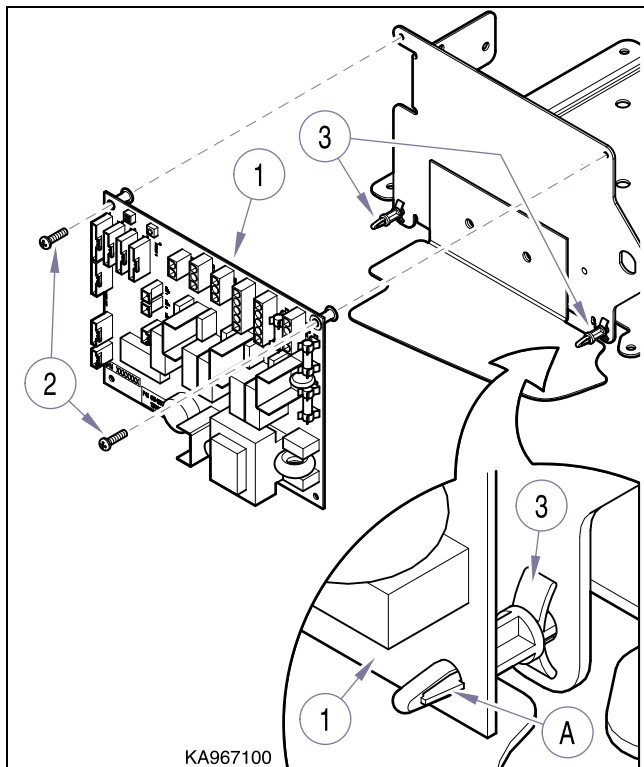

Figure 4-17. Printed Circuit Board.
- (4) Tag then disconnect plug connectors from P.C. Board (1, Fig. 4-17).
- (1) Install p.c. board (1, Fig. 4-17) on lower mounts (3), pushing inward until it snaps in place.
- (2) Install top mounting screws (3).
- (3) Install plug connectors on p.c. board (refer to para 5.1 for connector layout).